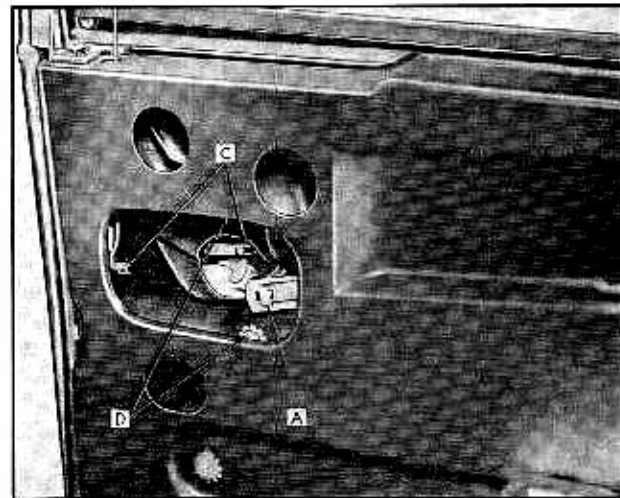

Fig. 3-3 Removing Link from Door Lock
5. Rotate remote control link downward sufficiently to disengage link from door lock at "A". Fig. 3-3.
7. Using a screwdriver, carefully detach the spring clip ends of the locking rod control link from the lock and locking rod, indicated at "C". Remove locking rod control link assembly from door pillar. Fig. 3-3.